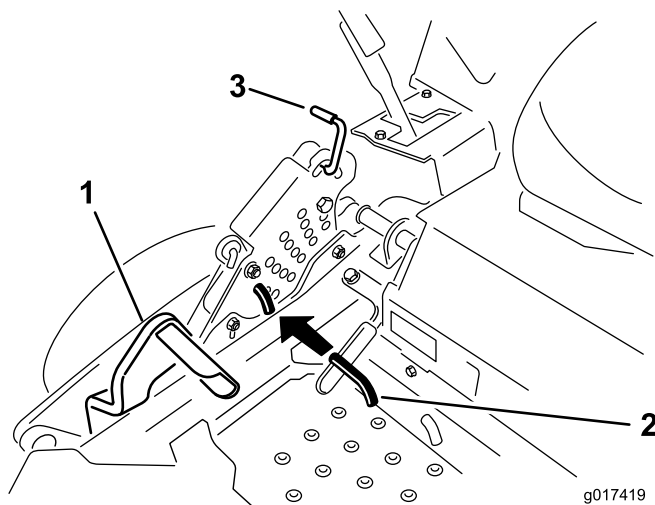

Figure 71
5. Push the deck lift pedal all the way forward and the deck will latch at the 14 cm (5-1/2 inch) transport position (Figure 71).